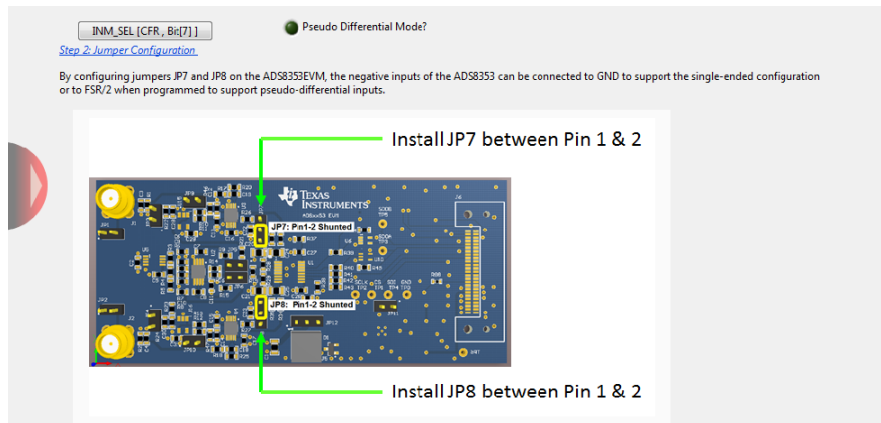

Figure 22. Single-Ended or Pseudo-Differential Jumper Settings Description on the GUI
5. Scroll down in the *ADSxx53EVM Settings* page and find the *ADSxx53 Analog Inputs* connections descriptions on the GUI. The ADSxx53 device can be programmed to support single-ended inputs or pseudo-differential inputs by setting the *INM_SEL [CFR, Bit[7]]* button. Configure jumpers JP7 and JP8 on the ADSxx53EVM to connect the negative inputs of the ADSxx53 to GND to support single-ended configuration, or to FSR / 2 to support pseudo-differential inputs. Figure 22 shows jumpers JP7 and JP8 on the *ADSxx53EVM Settings* page of the GUI.